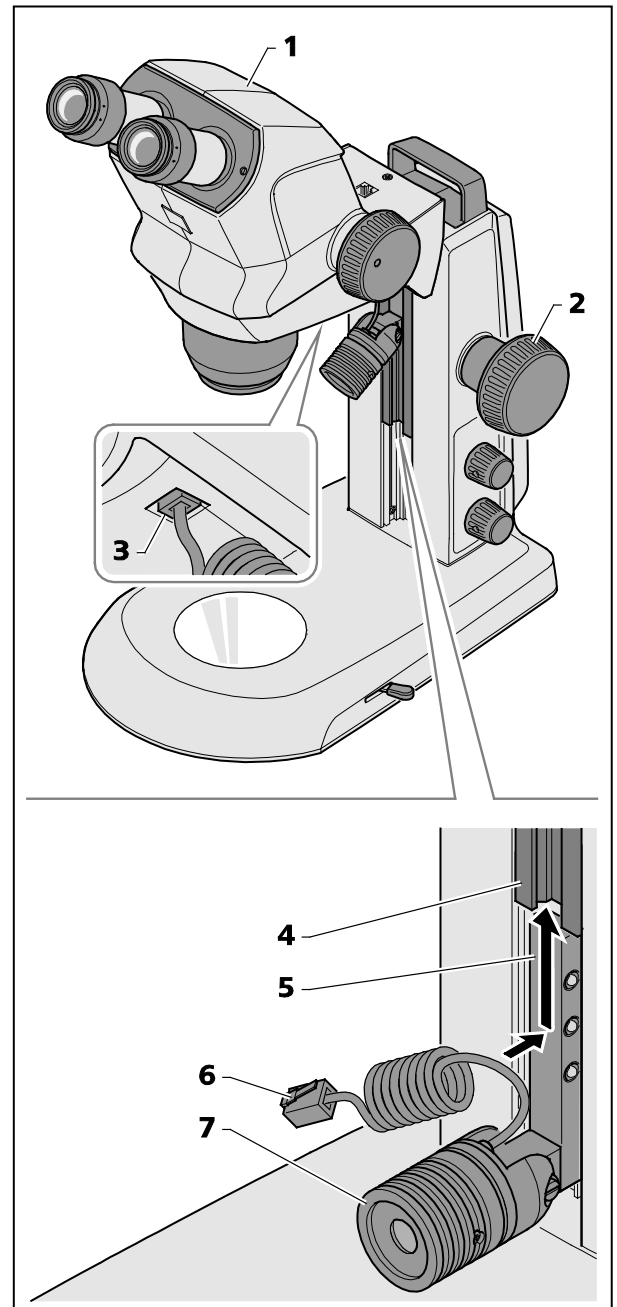

Fig. 9 Mounting spot illuminator
- Move the microscope body (Fig. 9/1) into its uppermost position via the focusing knob (Fig. 9/2).
- Insert the spot illuminator (Fig. 9/7) in the stand by sliding the holder (Fig. 9/5) into the stand guide (Fig. 9/4) from below and push it upwards into the required position.
- Plug the connection cable (Fig. 9/6) of the spot illuminator into the lower socket of the Stemi mount (Fig. 9/3).